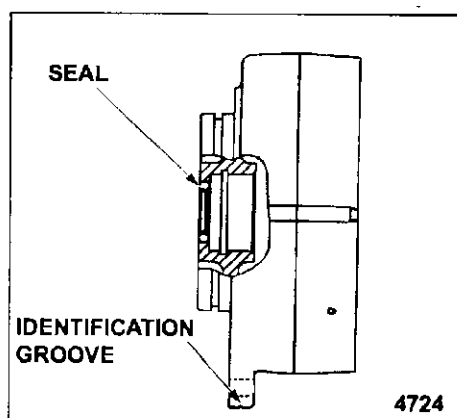

Fig. 1
2. Assemble the insulator and timer to the switch plate. The insulator should be positioned between the timer and the plate so the 3 holes for the timer are aligned and so the holes for the START and STOP switches align with those in the plate. Secure the timer using two #5 screws (Fig. 1).
3. Assemble the new switches to the switch plate. The switch with the black button (START) should be installed in the left hole and the switch with the red button (STOP) should be installed in the right hole (when viewed from the front of the plate). The switches should be mounted so the common terminals are toward the top of the plate and the insulator is trapped between the switches and the plate (Fig. 1).